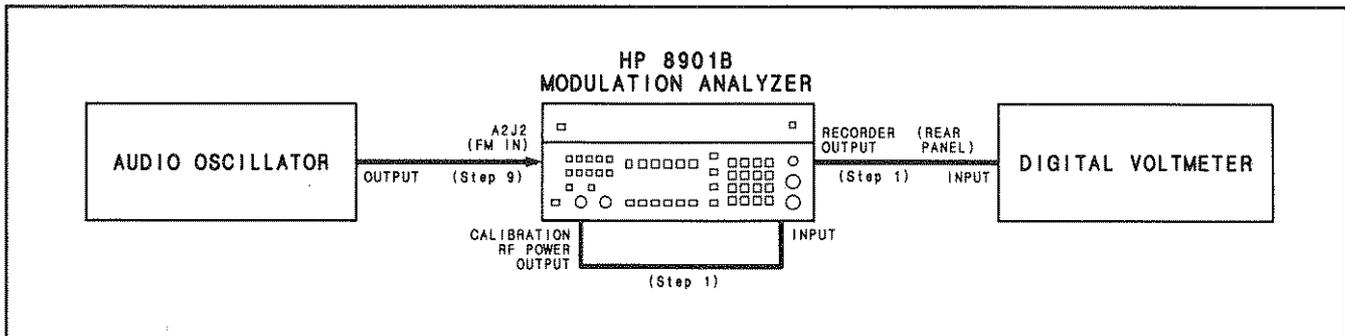

Figure 5-3. Voltmeter Offset and Sensitivity Adjustment Test Setup
1. Connect the equipment as shown in Figure 5-3. Do not connect the audio oscillator to the Modulation Analyzer at this time. (The Modulation Analyzer's INPUT can be connected either directly to the CALIBRATION RF POWER OUTPUT or through a sensor module.)
9. Set the audio oscillator for 2 kHz at 1 Vrms. Connect its output to A2J2 (FM IN) of the Modulation Analyzer as shown in Figure 5-3.